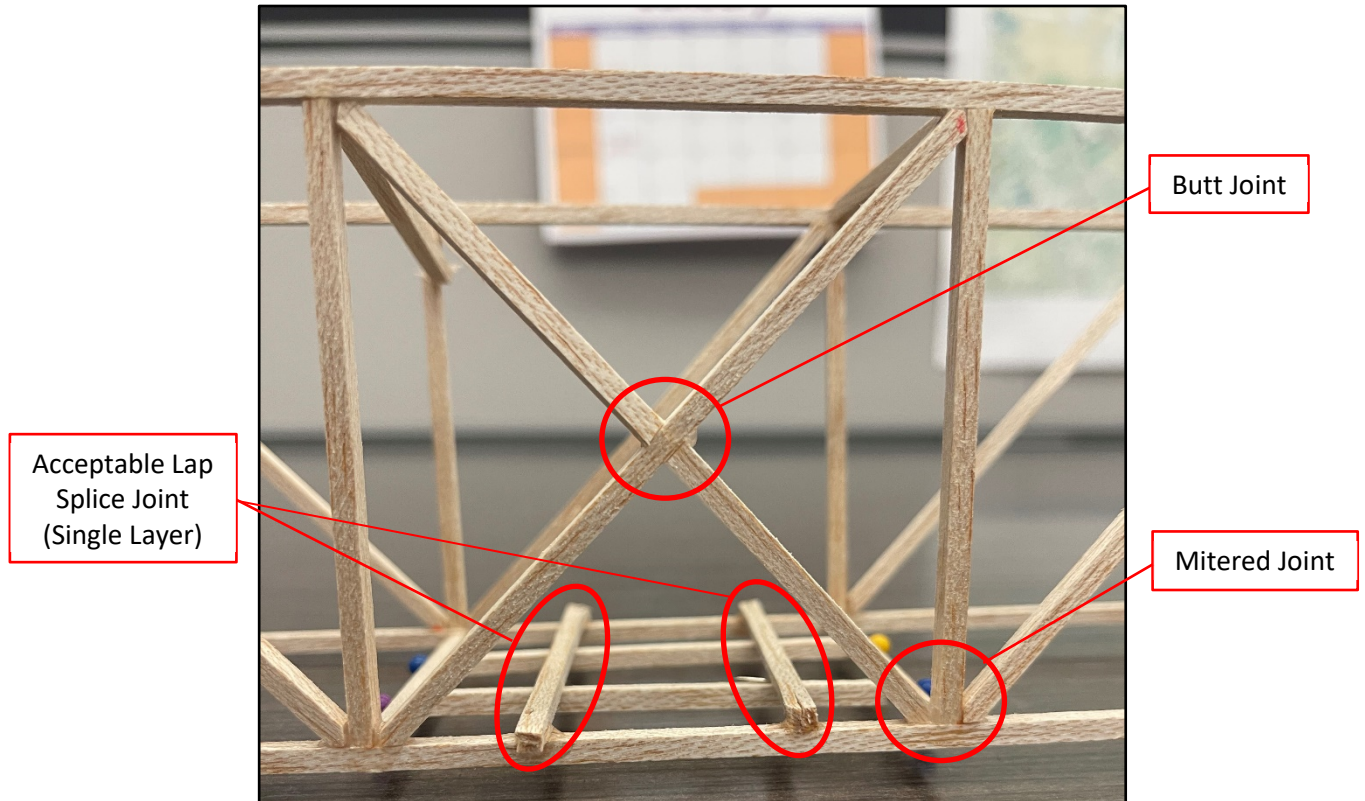

Figure 4. Acceptable Joints
- d) Connections can be butt joints, miter joints, or notched joints. Lap splices are permitted, but no greater than 1/4 of an inch thick. Each piece of balsa wood is 1/8 of an inch thick; so, this means no more than 2 pieces of balsa wood may be used to create a lap splice. See Figures 4 & 5 below and Section 5(k) for more details.